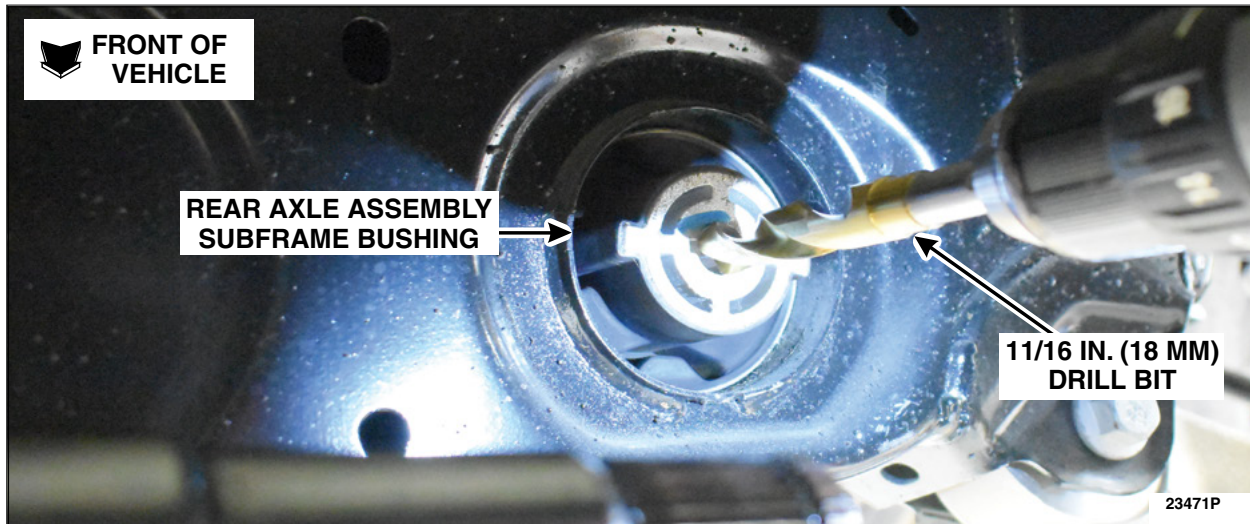

FIGURE 14
21. Using an 11/16 in. (18 mm) or larger drill bit, drill out the rear axle assembly subframe bushing bolt hole. See Figure 14. Click on the video link to see the drilling process: